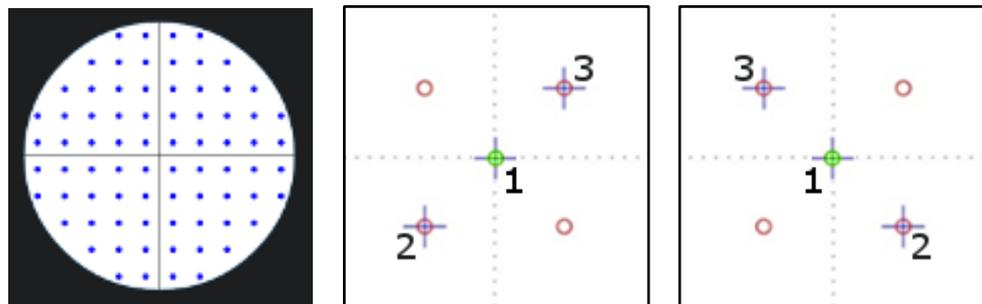

Fig. 25 – “30-2” grid test locations (left)
- Steps 1 to 6 take place as described above, with the IR image and foveal test being performed with a fixation target in the central position with respect to the field (see Fig. 25, position 1).
- Step 7 is split in two parts: at the end of the foveal test the fixation target changes from the central position to a position at about 4° from the center in lower-nasal direction (see Fig. 25, position 2). Allow the patient to locate the fixation target and to start fixating it before clicking the arrow to proceed.
- Then, the fixation target changes to a position at about 4° from the center in upper-temporal direction (see Fig. 25, position 3). Allow the patient to locate the fixation target and to start fixating it before clicking the arrow to proceed; the remaining 38 locations are then tested.